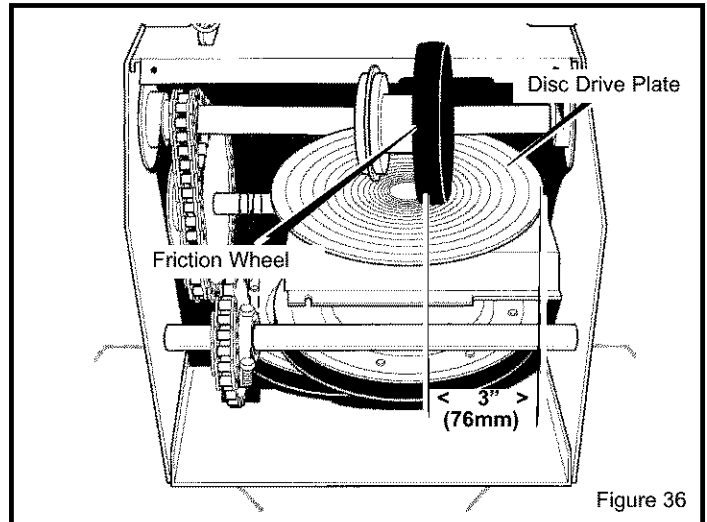

Figure 36
3. Note position of friction wheel on disc drive plate. Proper position from the right outer side of disc drive plate to the centre of friction wheel must be 3" (76 mm) (see Figure 36).